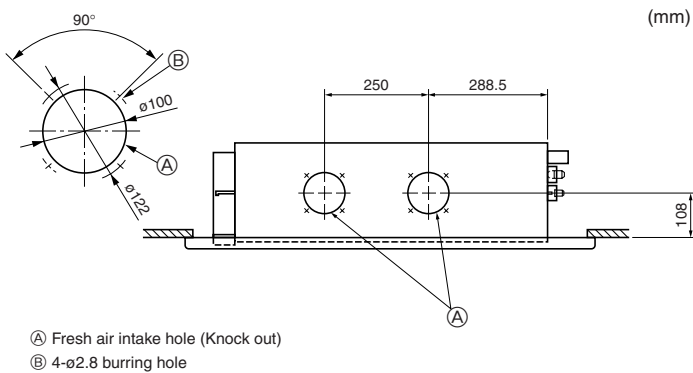

Fig. 2-9
2.5. Fresh air intake hole (Fig. 2-9)